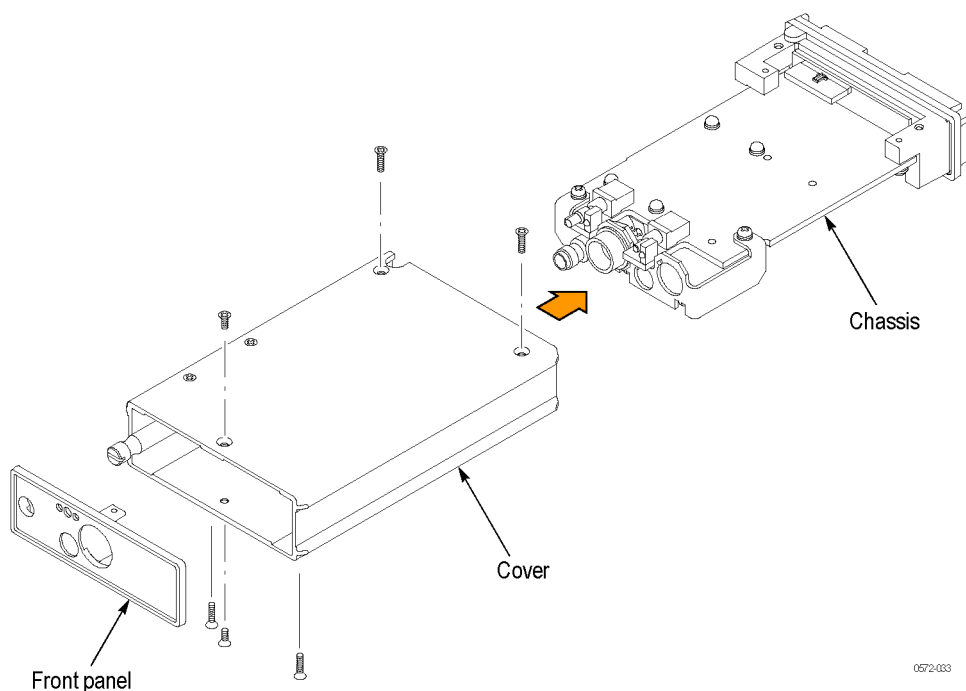

Figure 17: Sample of electrical module hardware removal
2. *Remove the cover:* (See Figure 17.)